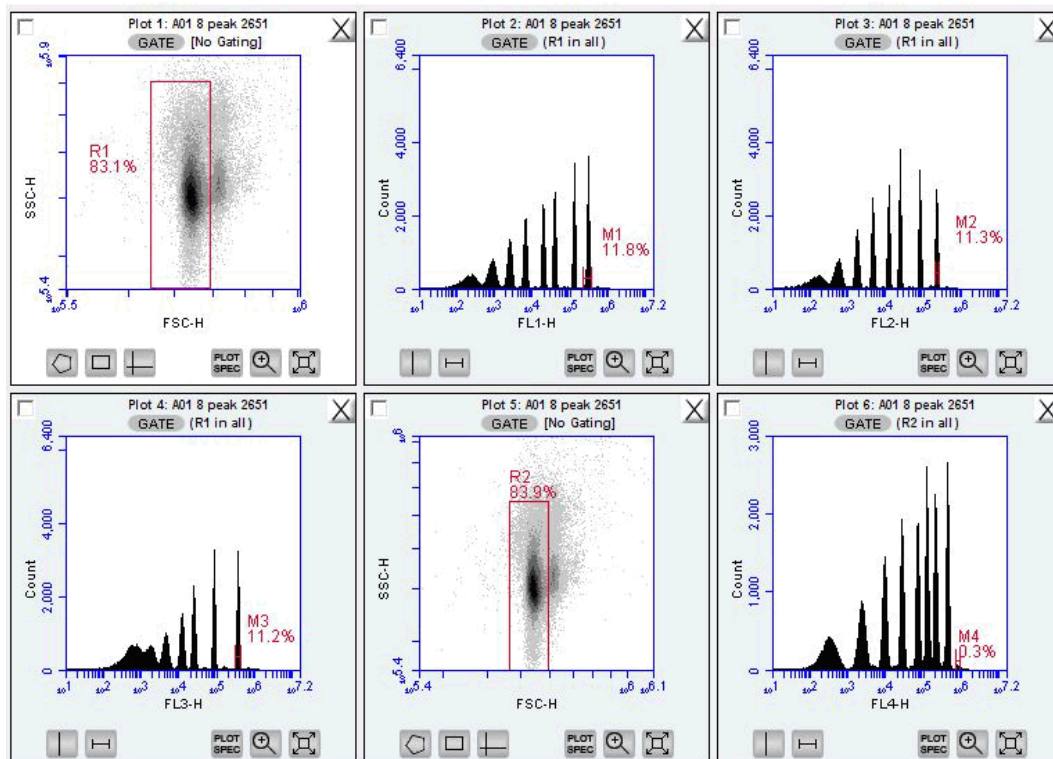

Figure 3-13. 8-Peak Validation Bead Data
5. Compare the bead run to the manufacturing results sent with the C6. If the C6 is performing properly, the data plots should look similar to the the 8-peak bead plots in Figure 3-13. Look for the following: